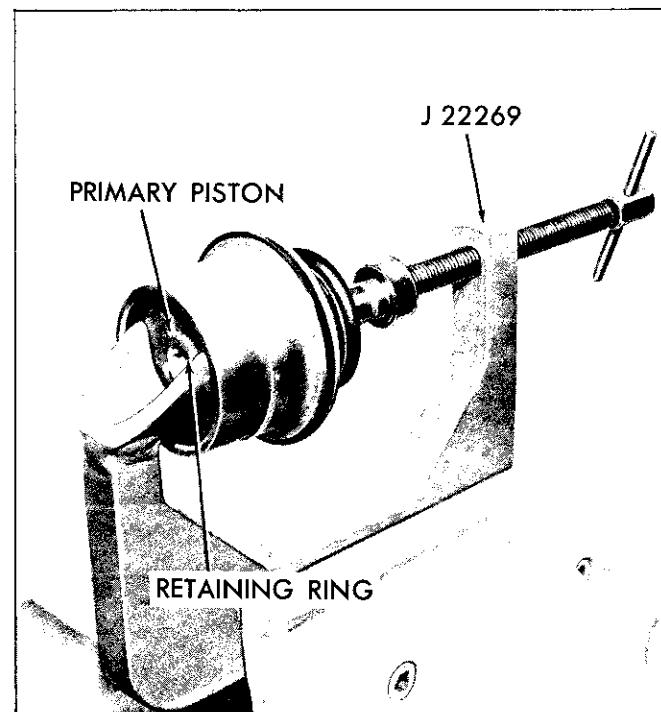

Fig. 7F-70 Compressing Low Servo
2. Mount J 22269 in vise, compress primary piston in J 22269 (Fig. 7F-70) and remove snap ring. Remove primary piston, springs, apply pin and washer from secondary piston assembly.
1. Install washer into secondary piston assembly (Fig. 7F-71).